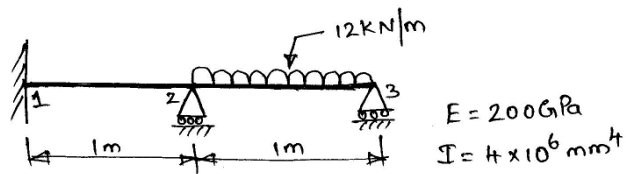

Fig. 2
7. For the beam and loading shown in fig. 2 determine the slopes at 2 and 3. The vertical deflection at the midpoint of the distributed load.